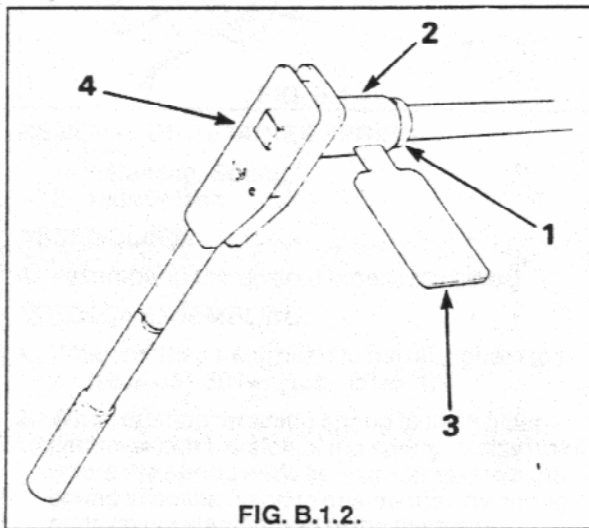

FIG. B.1.2.
1. Unscrew flash hider from barrel. See Fig. B.1.2.